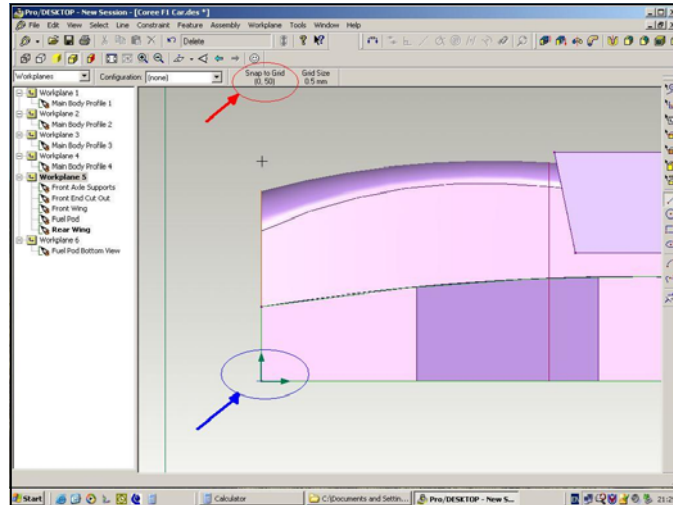

Figure 23 - Drawing Coordinates
- 4) The Balsa Blank is 50 MM high, so when you are creating the vectors, refer to the coordinates to make sure you don’t exceed the boundaries of the Blank. In Figure 23 the Blue circle is highlighting the origin, and the Red circle is highlighting your coordinates of the cursor.